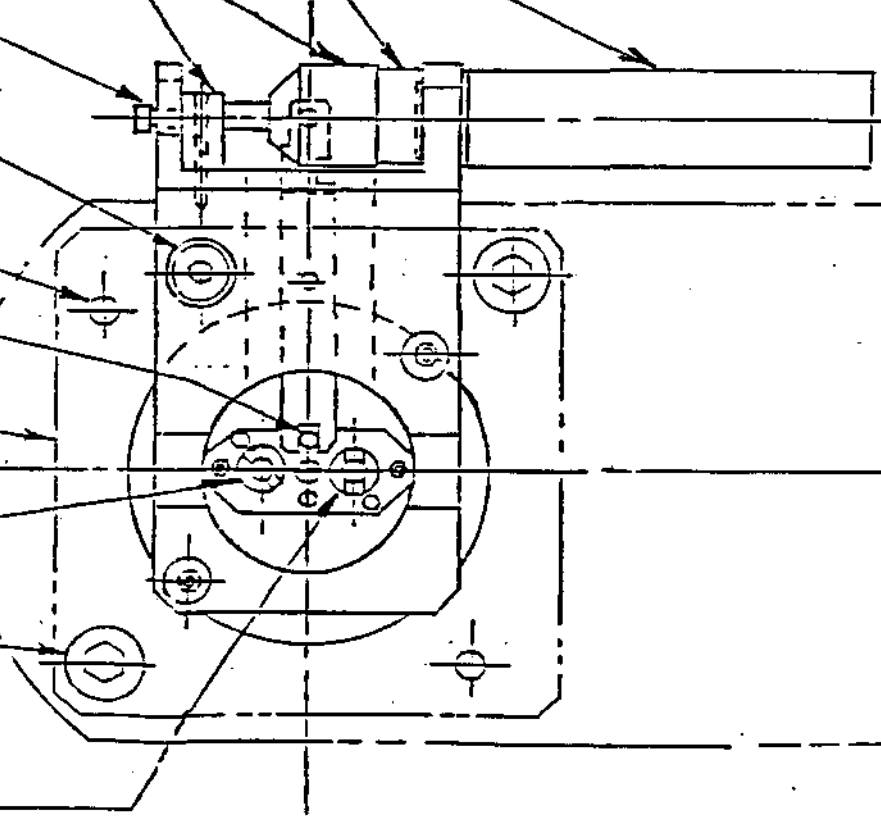

FIGURE 1
- 2.2 Using a 5/32 hex key, remove the two cap screws (PD, figure 1) that secure mounting plate and beam attenuator, to polarizer mounting arm.
- 2.3 Using a 3/32-inch hex key, remove buttonhead screw (figure 1) and withdraw the C-Slide assembly.